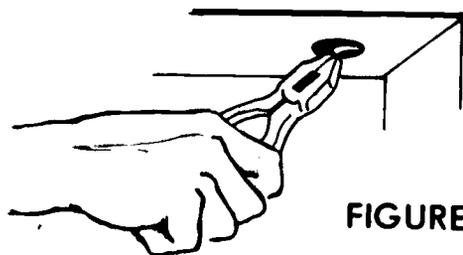

FIGURE 4
5. Bend KO back and forth until removed (Figure 4)